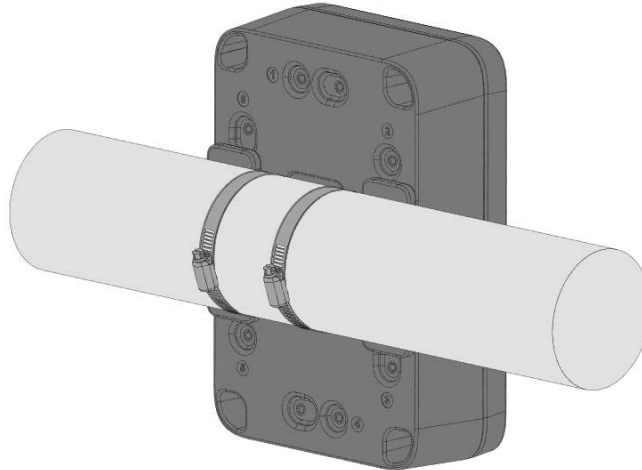

Figure 19: Fixing the enclosure on the pole
3. After fixing the mounts on the enclosure, place the WisBlock Unify Enclosure onto the pole by using two (2) steel strips (60-85 mm), as shown in **Figure 19**.